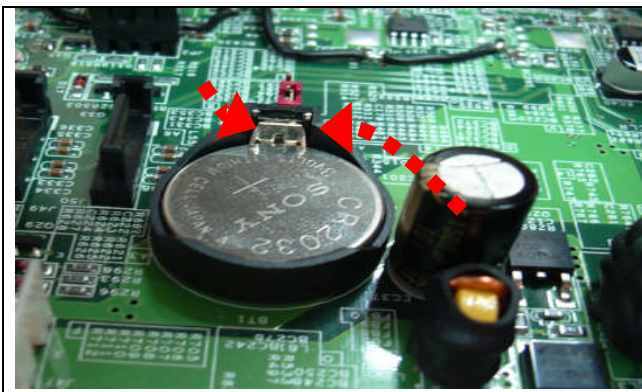

Fig. 2-9 Eject the battery
1. Press the metal clip back to eject the button battery (**Fig. 2-9**).